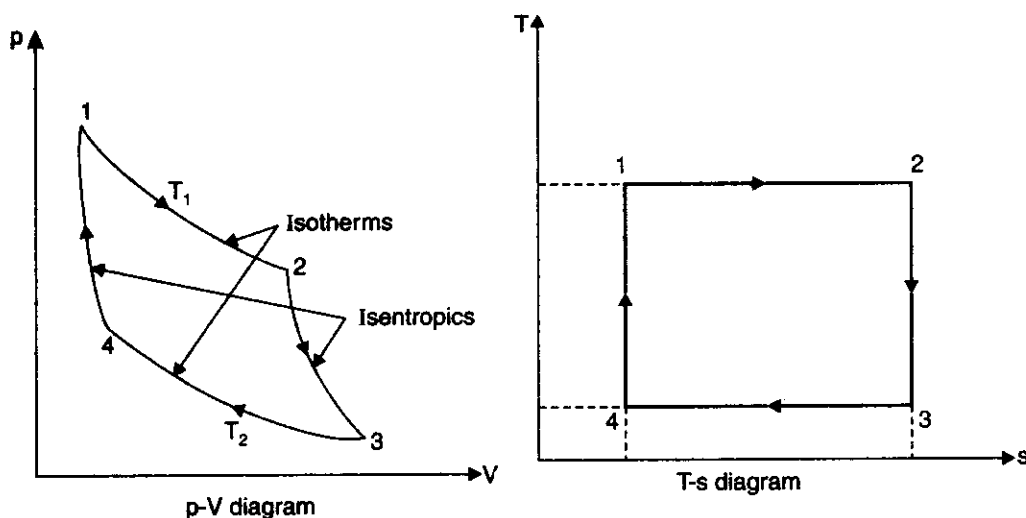

Fig. 13.3. Carnot cycle.
**Solution.** Refer Fig. 13.3. Given :  $m = 0.5 \text{ kg}$  ;  $\eta_{th} = 50\%$  ; Heat transferred during isothermal expansion = 40 kJ ;  $p_1 = 7 \text{ bar}$ ,  $V_1 = 0.12 \text{ m}^3$  ;  $c_v = 0.721 \text{ kJ/kg K}$  ;  $c_p = 1.008 \text{ kJ/kg K}$ .